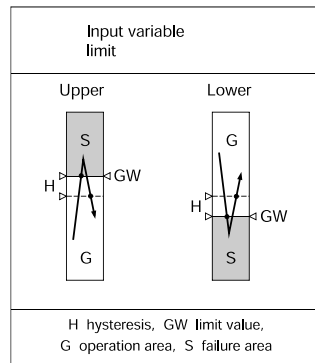

Fig. 3
– for monitoring the input variable in relation to a lower or upper limit between –10 and 110%² (see left side of Fig. 3)